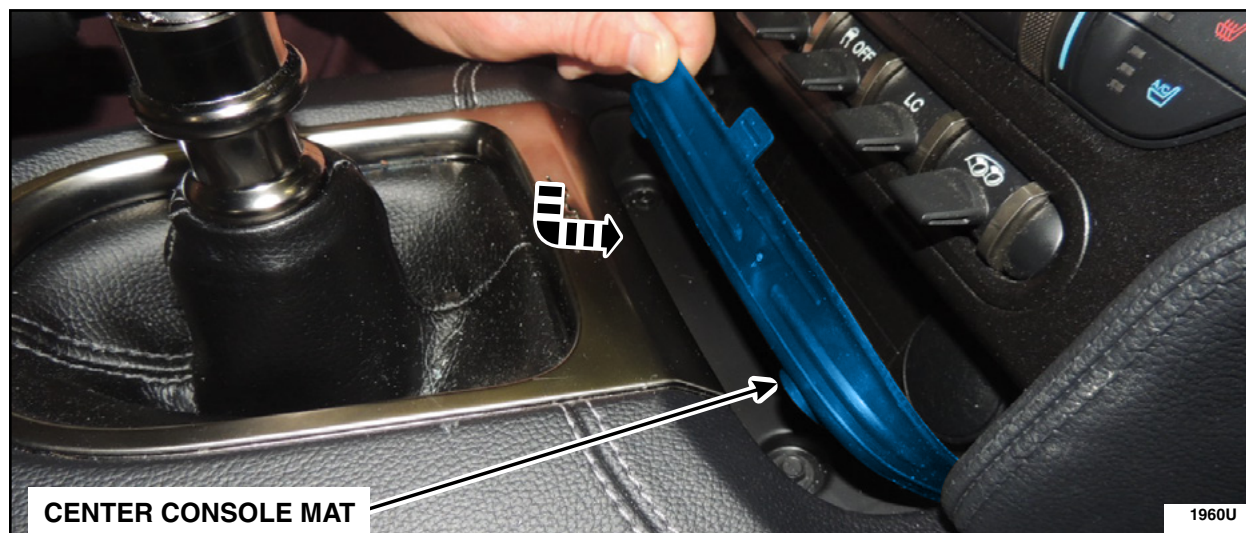

FIGURE 24
33. Install the center console mat. See Figure 24.